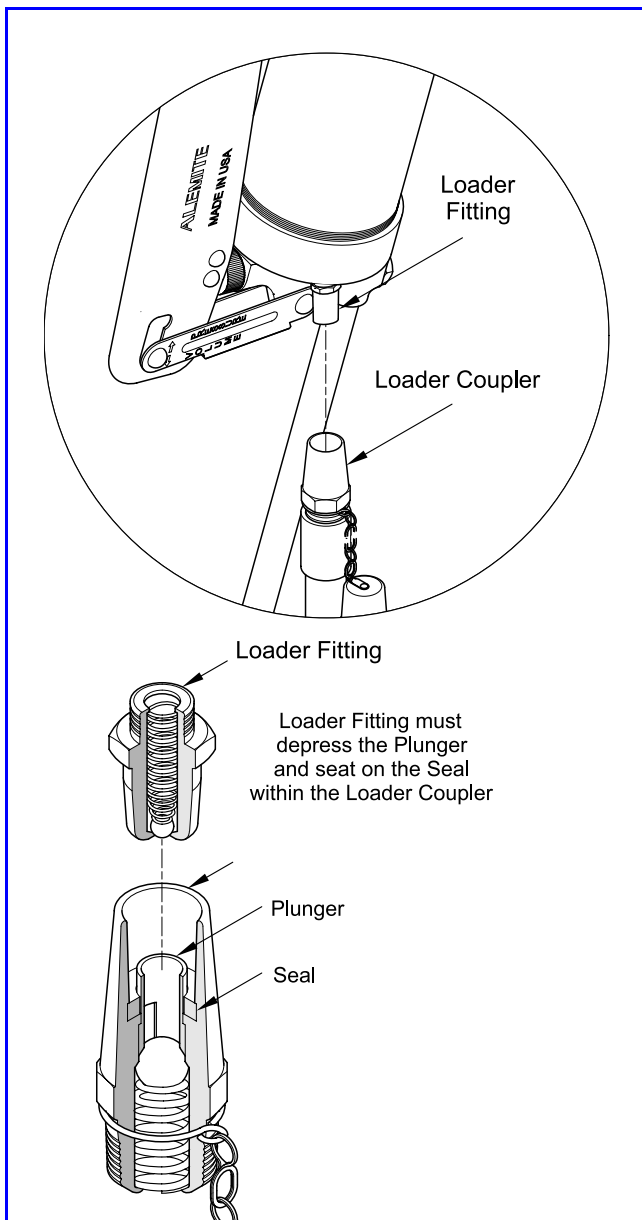

Figure 4 *Loader Fitting and Loader Coupler
3. Seat the Loader Fitting into the loader coupler. See **Figure 4**.